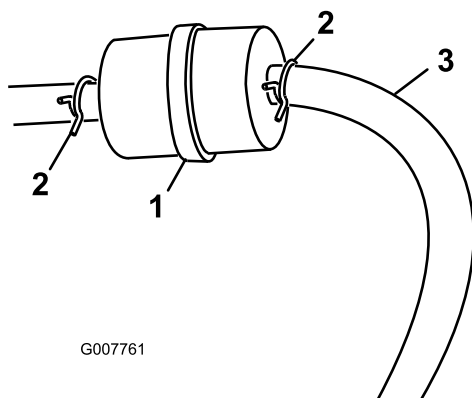

Figure 27
3. Squeeze the ends of the hose clamps together and slide them away from the filter (Figure 27).
5. Install a new filter and move the hose clamps close to the filter (Figure 27).
3. Loosen the hose clamp at the fuel filter and slide it up the fuel line away from the fuel filter (Figure 27).
4. Disconnect the fuel line from the fuel filter (Figure 27).
Note: Allow gasoline to drain into a fuel container can or drain pan (Figure 27).
5. Install the fuel line onto the fuel filter. Slide the hose clamp close to the fuel filter to secure the fuel line (Figure 27).